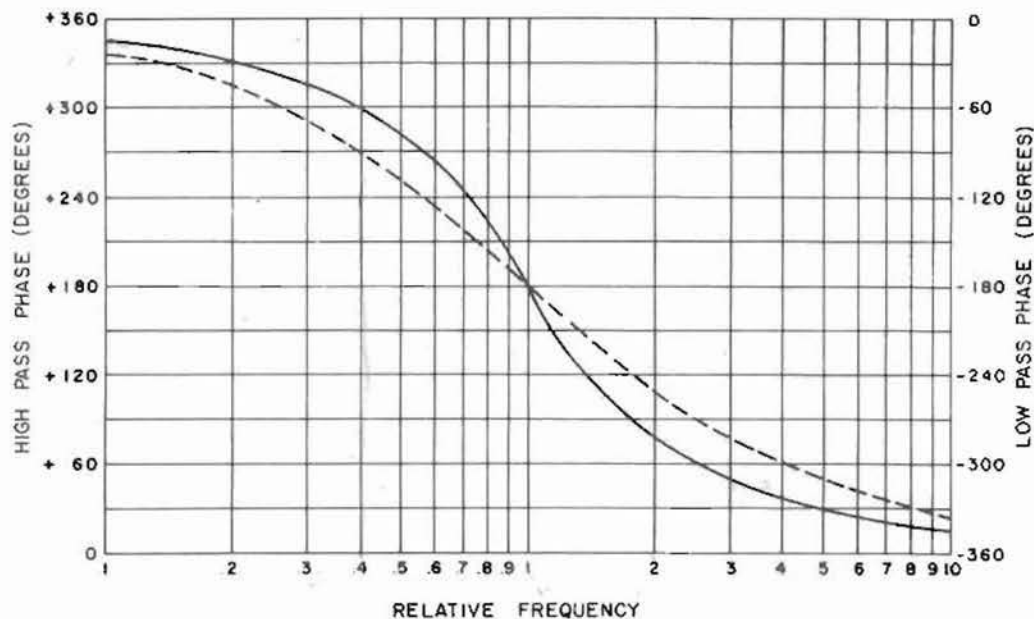

Figure 2-5. Phase Shift
The phase shift in each section of the filter is shown in Figure 2-5. In the drawing a positive angle means phase lead, i. e., the output voltage leads input voltage. The solid curve is for MAX FLAT mode, and the dotted curve for LOW Q mode.
3. Referring to Figure 2-5: